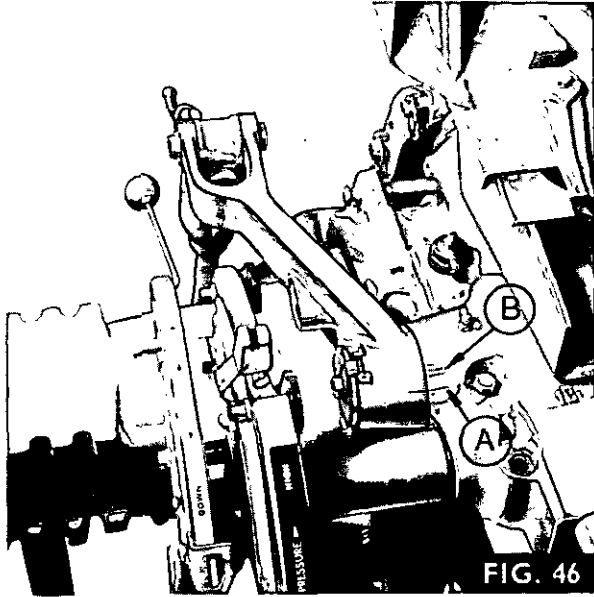

FIG. 46
6. Screw in the lower knurled adjustment screw (82) on the vertical lever (10) as shown, until the weighted lower links have risen fully and pressure control valve starts to blow off and a gauge reading of approximately 208 to 218 kg/cm2 (2950 to 3100 lb/in2) is obtained.
7. Fig 46. Scribe a line (A) on the lift cover and lift arm, to indicate the start of valve blow off.
8. Scribe two more lines (B) on the lift cover 3,2 mm ( 1/8 in) apart, and about 12,7 mm ( 1/2 in) back from the line (A) as shown.
9. Turn the lower adjustment screw (82) out until the time taken for the scribe line (A) on the lift arm to pass between the two scribe lines (B) on the lift cover is five seconds. (This is equivalent to a rate of drop of 25,4-mm (1 in) per five seconds at the ends of the lower links).
10. Fully raise the draft control lever and remove the wedge tool MF 270B (A).
2. Move the lever past the transport position to lower the weight, then return the lever to the transport position against the stop, the scribe lines (A) (Fig. 46) should be 1,6 to 3,2 mm ( $\frac{1}{16}$  to  $\frac{1}{8}$  in) apart.
3. Check that the lift arms continue to support the weight, and that after three minutes the lift arms do not fall more than 8 mm ( $\frac{3}{16}$  in), measured between the scribe times (A Fig 46) using recommended oil at 38°C (100°F) minimum.